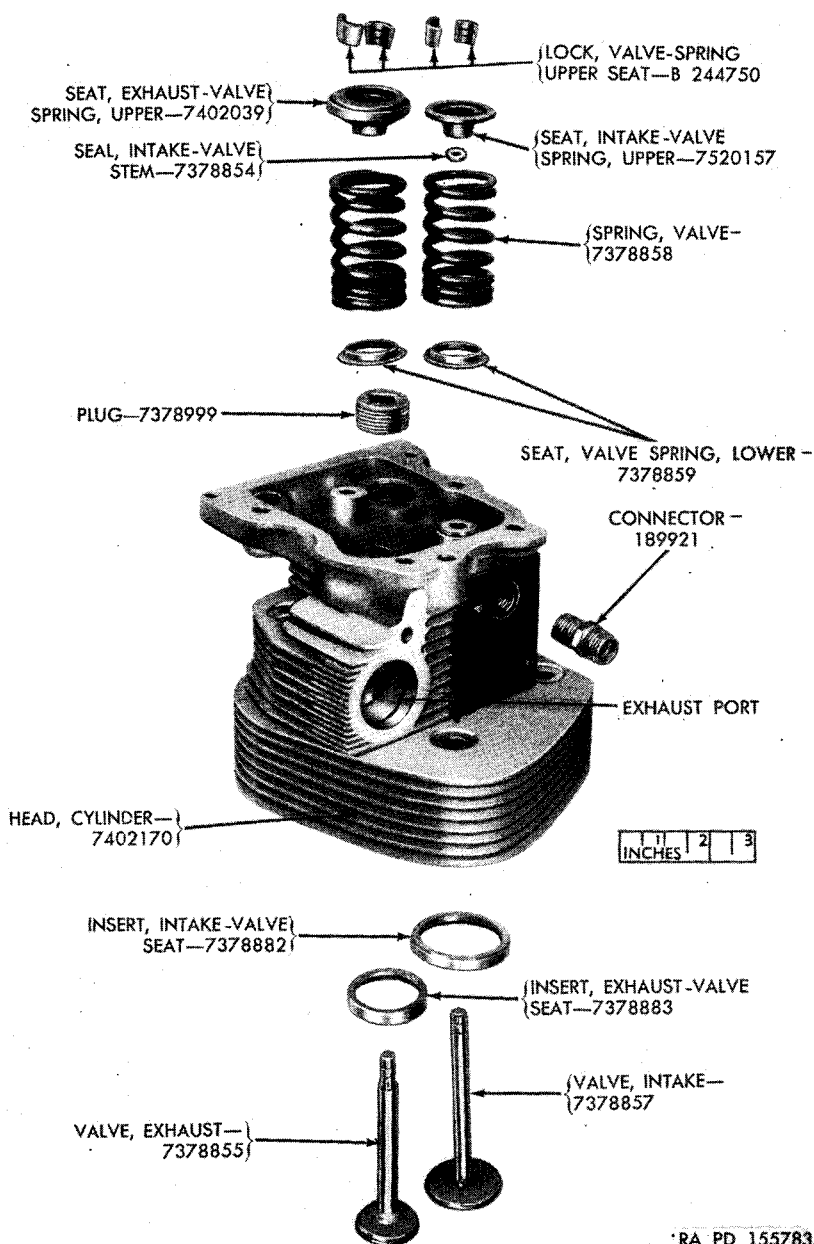

Figure 72. Cylinder head and valves—exploded view.
b. Remove exhaust-valve-spring-upper-seat locks using valve-spring compressor. Then slide valve-spring upper seat, valve spring and valve-spring lower seat off end of valve (fig. 72).
- d. Slide a valve-spring lower seat, valve spring, valve-stem seal and valve-spring upper seat over stem of intake valve (fig. 72). Compress